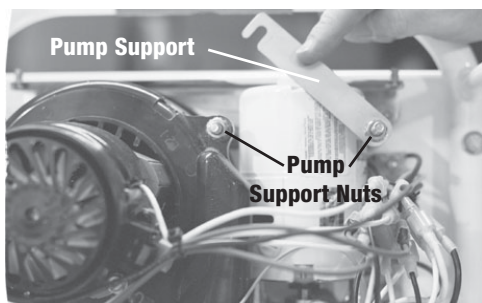

Figure 3
3. Loosen pump support nuts and push pump support up (fig. 3).